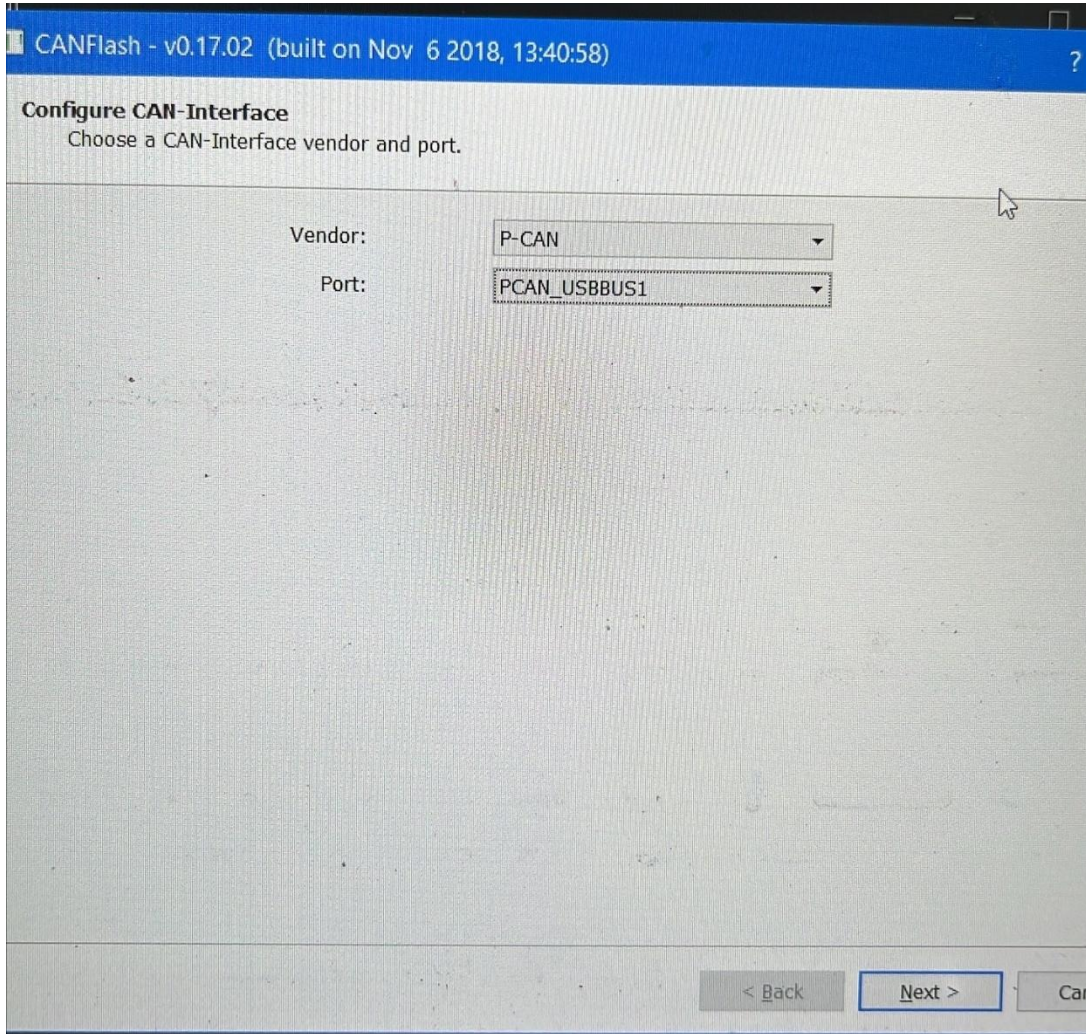

Figure 12: CANFlash PCAN settings
40. Once CANFlash is open select **P-CAN** under the Vendor drop-down menu. Select **PCAN_USBBUS1** under the Port drop-down menu (see figure 12). It's important to ensure the physical connection to the laptop matches the same port as dictated by the CANFlash setup. Click **Next** when complete.